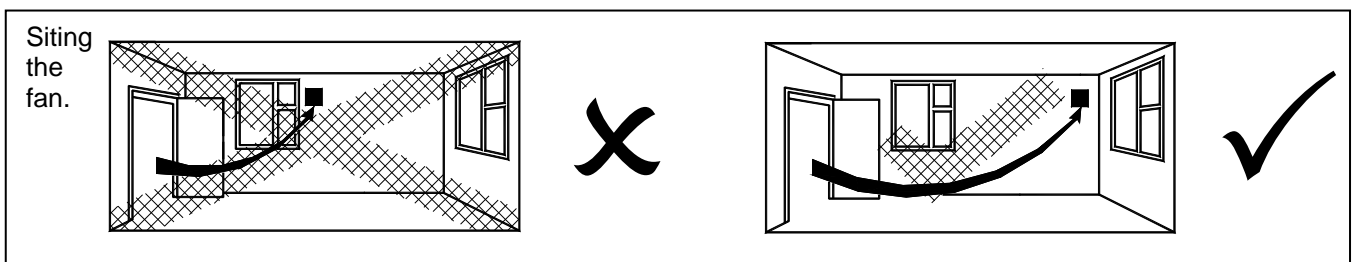

Fig.1 Continuous trickle (6l/s or 9l/s) with no boost facility (T, TP, HT & HTP – But TP & HTP can be boosted via pullcord)
1. Select and follow the appropriate wiring diagram. (Fig. 1, 2 or 3)